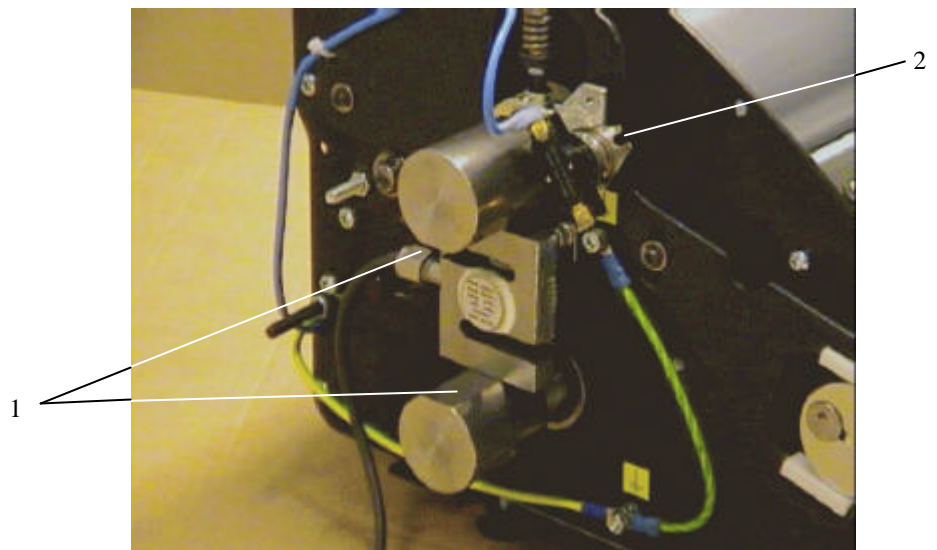

fig. 31
At the left-hand side of the machine, the overtemperature switch has to be turned away, to the right. In order to do this, remove the M4 socket screw at the top of the switch, and loosen the other M4 socket screw a bit, using the Allen key 3mm. See figure 31, (2).
Insert the supports, together with the sensor, all the way into the roller journals. The sensor supports should have their flat sides facing each other (see fig. 31, 1), and the holes in the sensor should fit over the pins in the supports.